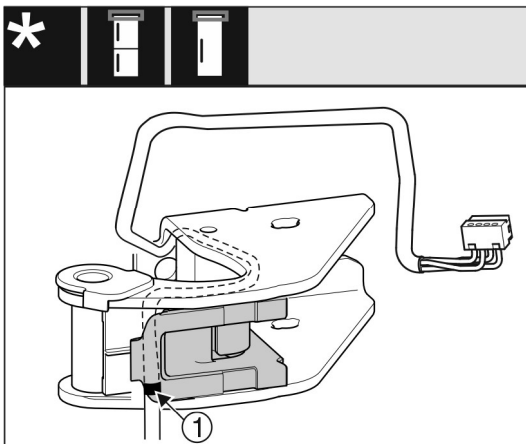

Fig. 28
- ▶ The center mark Fig. 28 (1) must be positioned on the edge of the cable bracket.